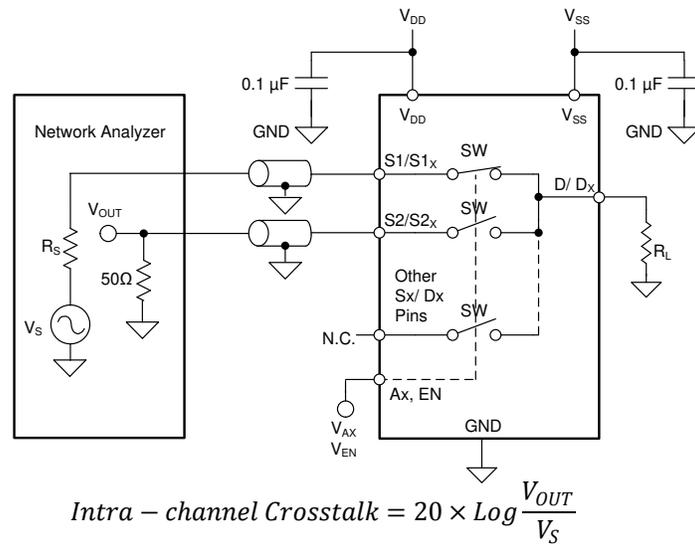

Figure 7-9. Intra-channel Crosstalk Measurement Setup
1. Intra-channel crosstalk ($X_{TALK(INTRA)}$): the voltage at the source pin (S_x) of an off-switch input when a signal is applied at the source pin of an on-switch input in the same channel, as shown in Figure 7-9.